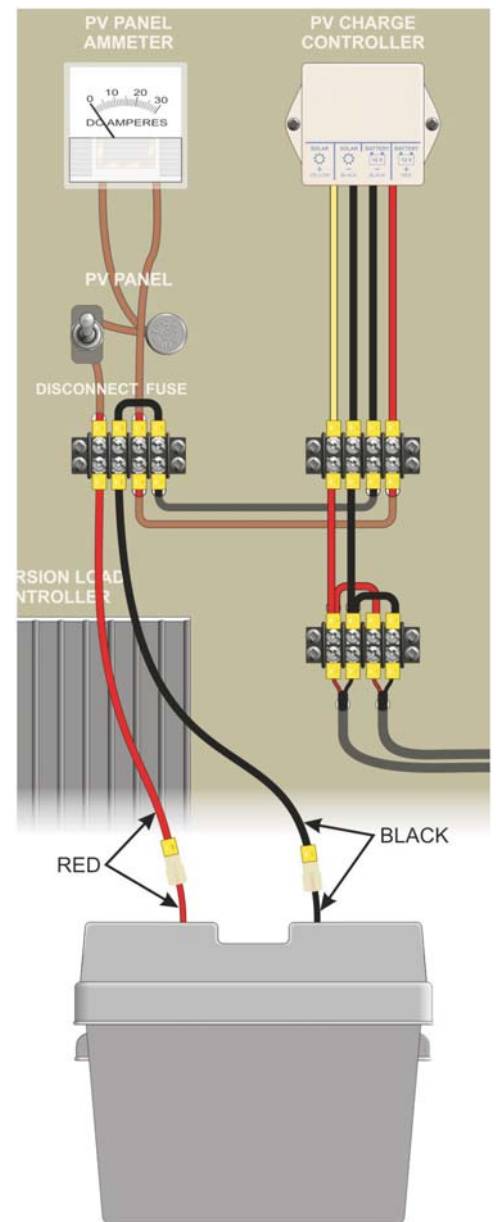

Figure 6-17: The PV Array's Battery Connections
7. Attach the wires to the battery leads – Red wire to positive – Black wire to negative, as shown in Figure 6-17.